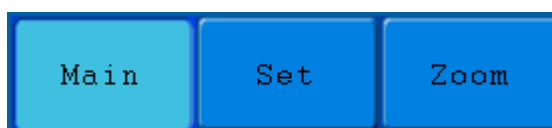

Fig. 26 Time Base Mode Menu
- HORIZ MENU** button: with this button pushed down, the screen shows the operating menu (see **Fig. 26**).